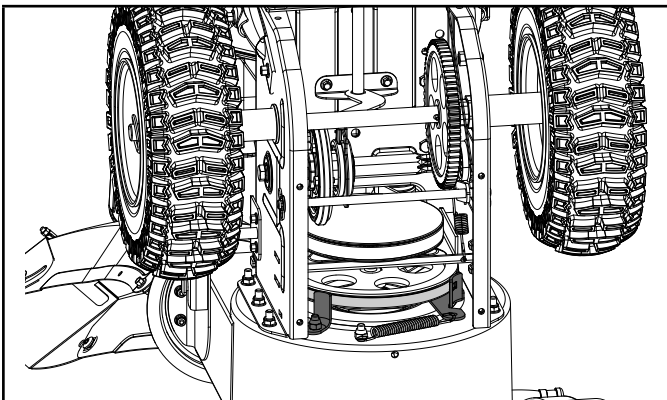

Figure 33
8. Ensure belt is seated below the belt guide on the idler pulley pivot arm (Fig. 33).